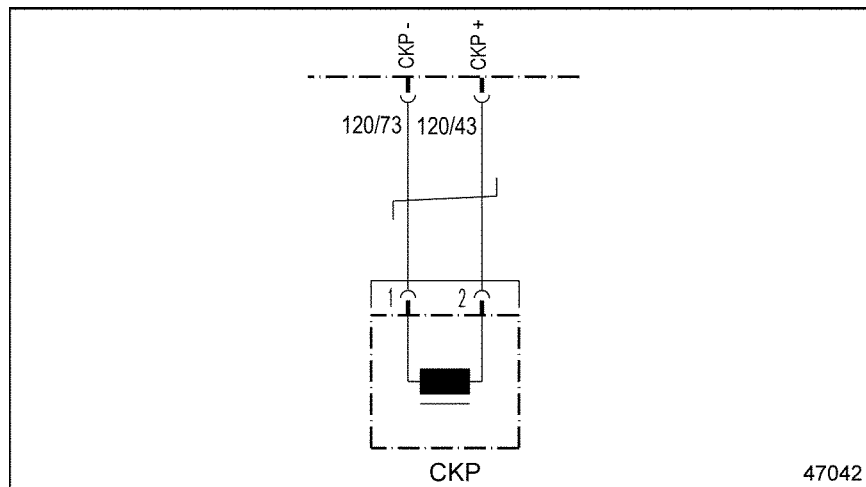

Figure 23-3 Crankshaft Position Sensor Wiring
5. Measure the resistance across pins 1 and 2 of the CKP Sensor harness connector. See Figure 23-3.